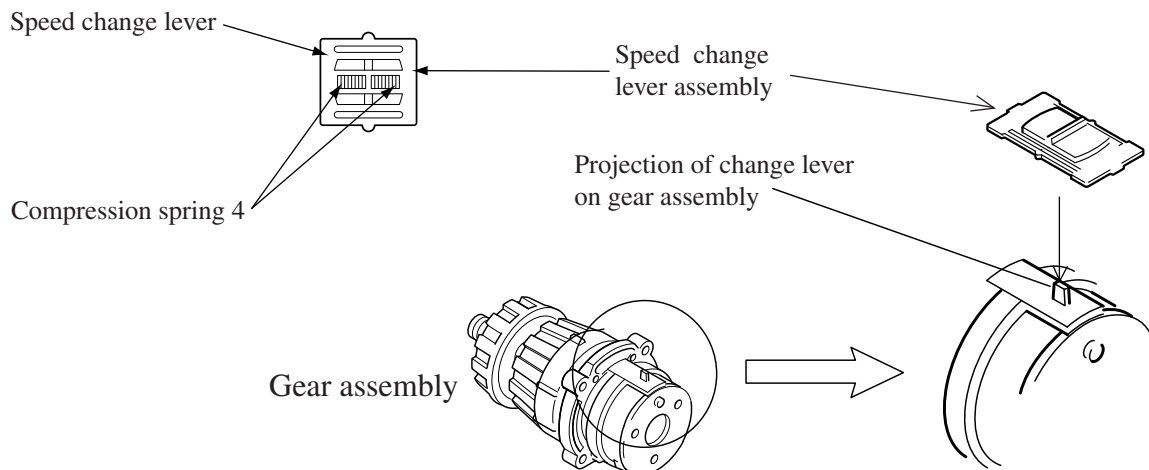

Fig. 4
- 2) Being careful that Compression spring 4 may not comes out , install Speed change lever assembly in the projection of change lever as shown in Fig. 4.